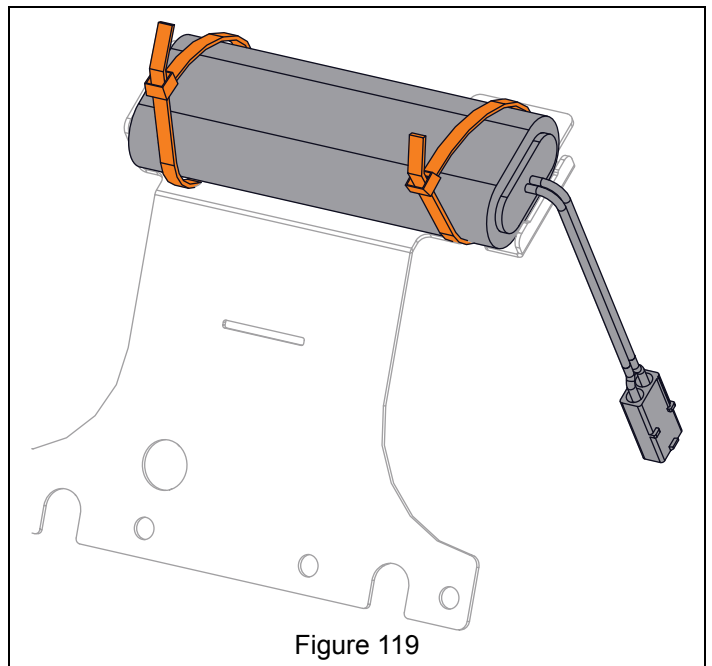

Figure 119
1. Position battery in battery bracket and secure with two cable ties. See Figure 119.